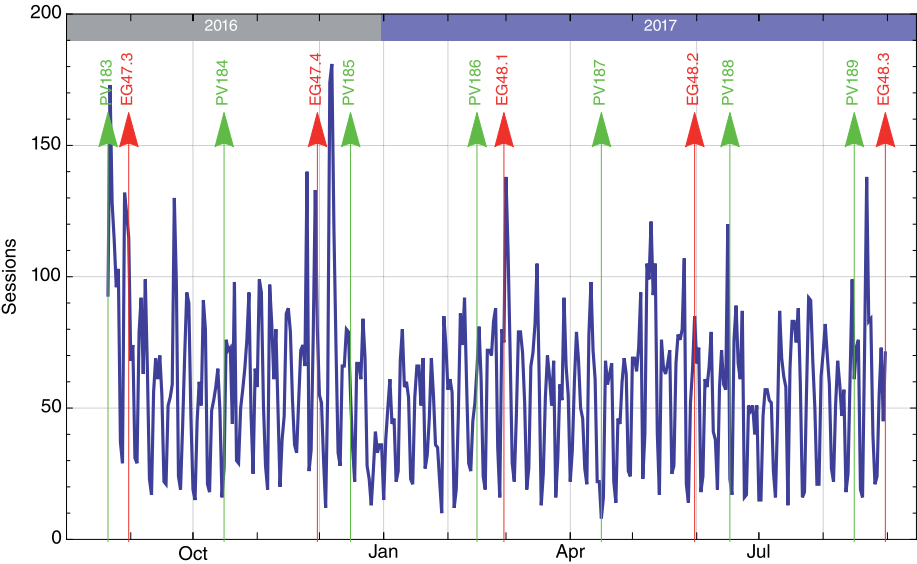

Figure 1. Visits to the new ASEG website during the first year of operation.
Over the year from August 2016 to August 2017 the site has had a total of 11 994 visitors, with over 80% from return visitors. This averages to 56 visitors per day. Figure 1 plots site visits over the first year. Red and green arrows indicate adjusted publication dates of EG and *Preview* (PV) respectively. Because it is difficult to determine publication dates exactly EG was adjusted to the end of the appropriate month, while PV was adjusted to the middle. There is some correlation between spikes in site visits and publication of either EG or PV.